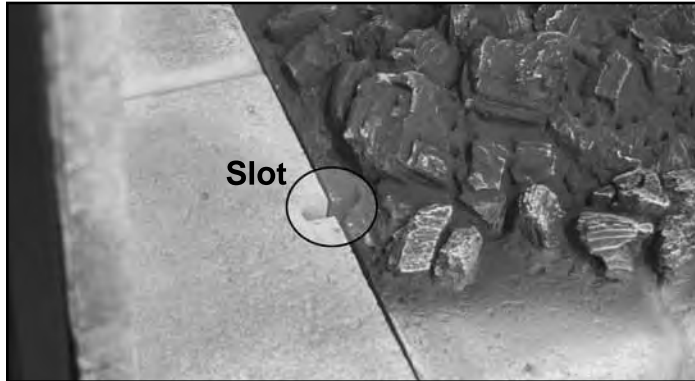
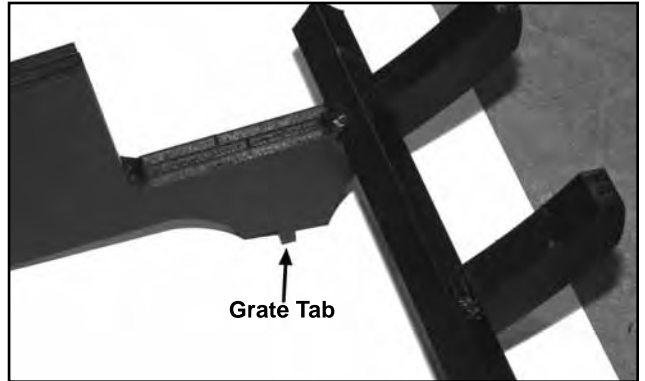

Figure 72: Slot for Firebox Grate.
Figure 73: Tab on Firebox Grate.
5. The firebox grate has two (2) tabs that run below the feet of the grate (see Figure 73), place the grate over the burner top and carefully inserting the grate tabs into the slots on the burner (see Figure 72 & 74). Once the grate is installed correctly, the burner, grate, and side burner accents will be all locked together.